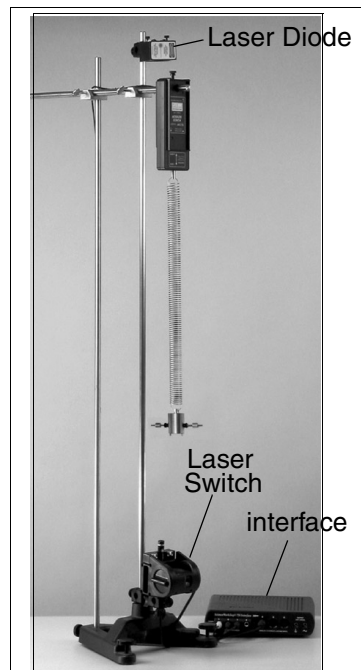

Figure 7: Setup
10. Plug from the Laser Switch to digital channel 3 on the *ScienceWorkshop* interface. For a picture of the complete setup, see Figure 7.